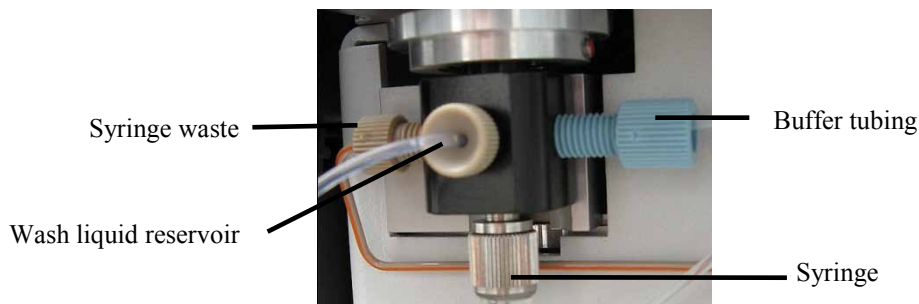

Fig. 17: Connections on the syringe valve
4. Connect the long tube from the Online Degas Wash kit to the syringe valve (→ Fig. 17, page 59).
3. Connect the other end of wash liquid line to the syringe valve (→ Fig. 17, page 59).